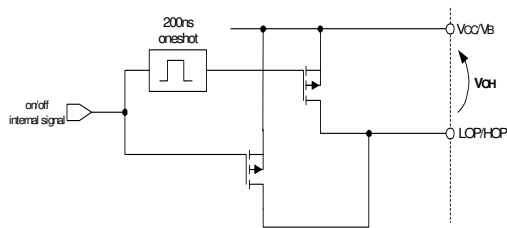

Figure 5: HOP and LOP Diagram
**Pins: HOP, LOP (refer to Fig. 5)**